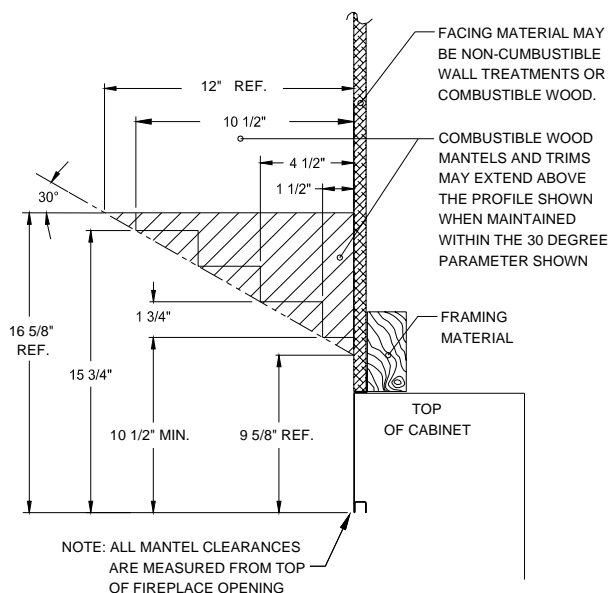

Figure 2 – Mantle Clearances
- Mantle Clearances See Figures 2 and 3